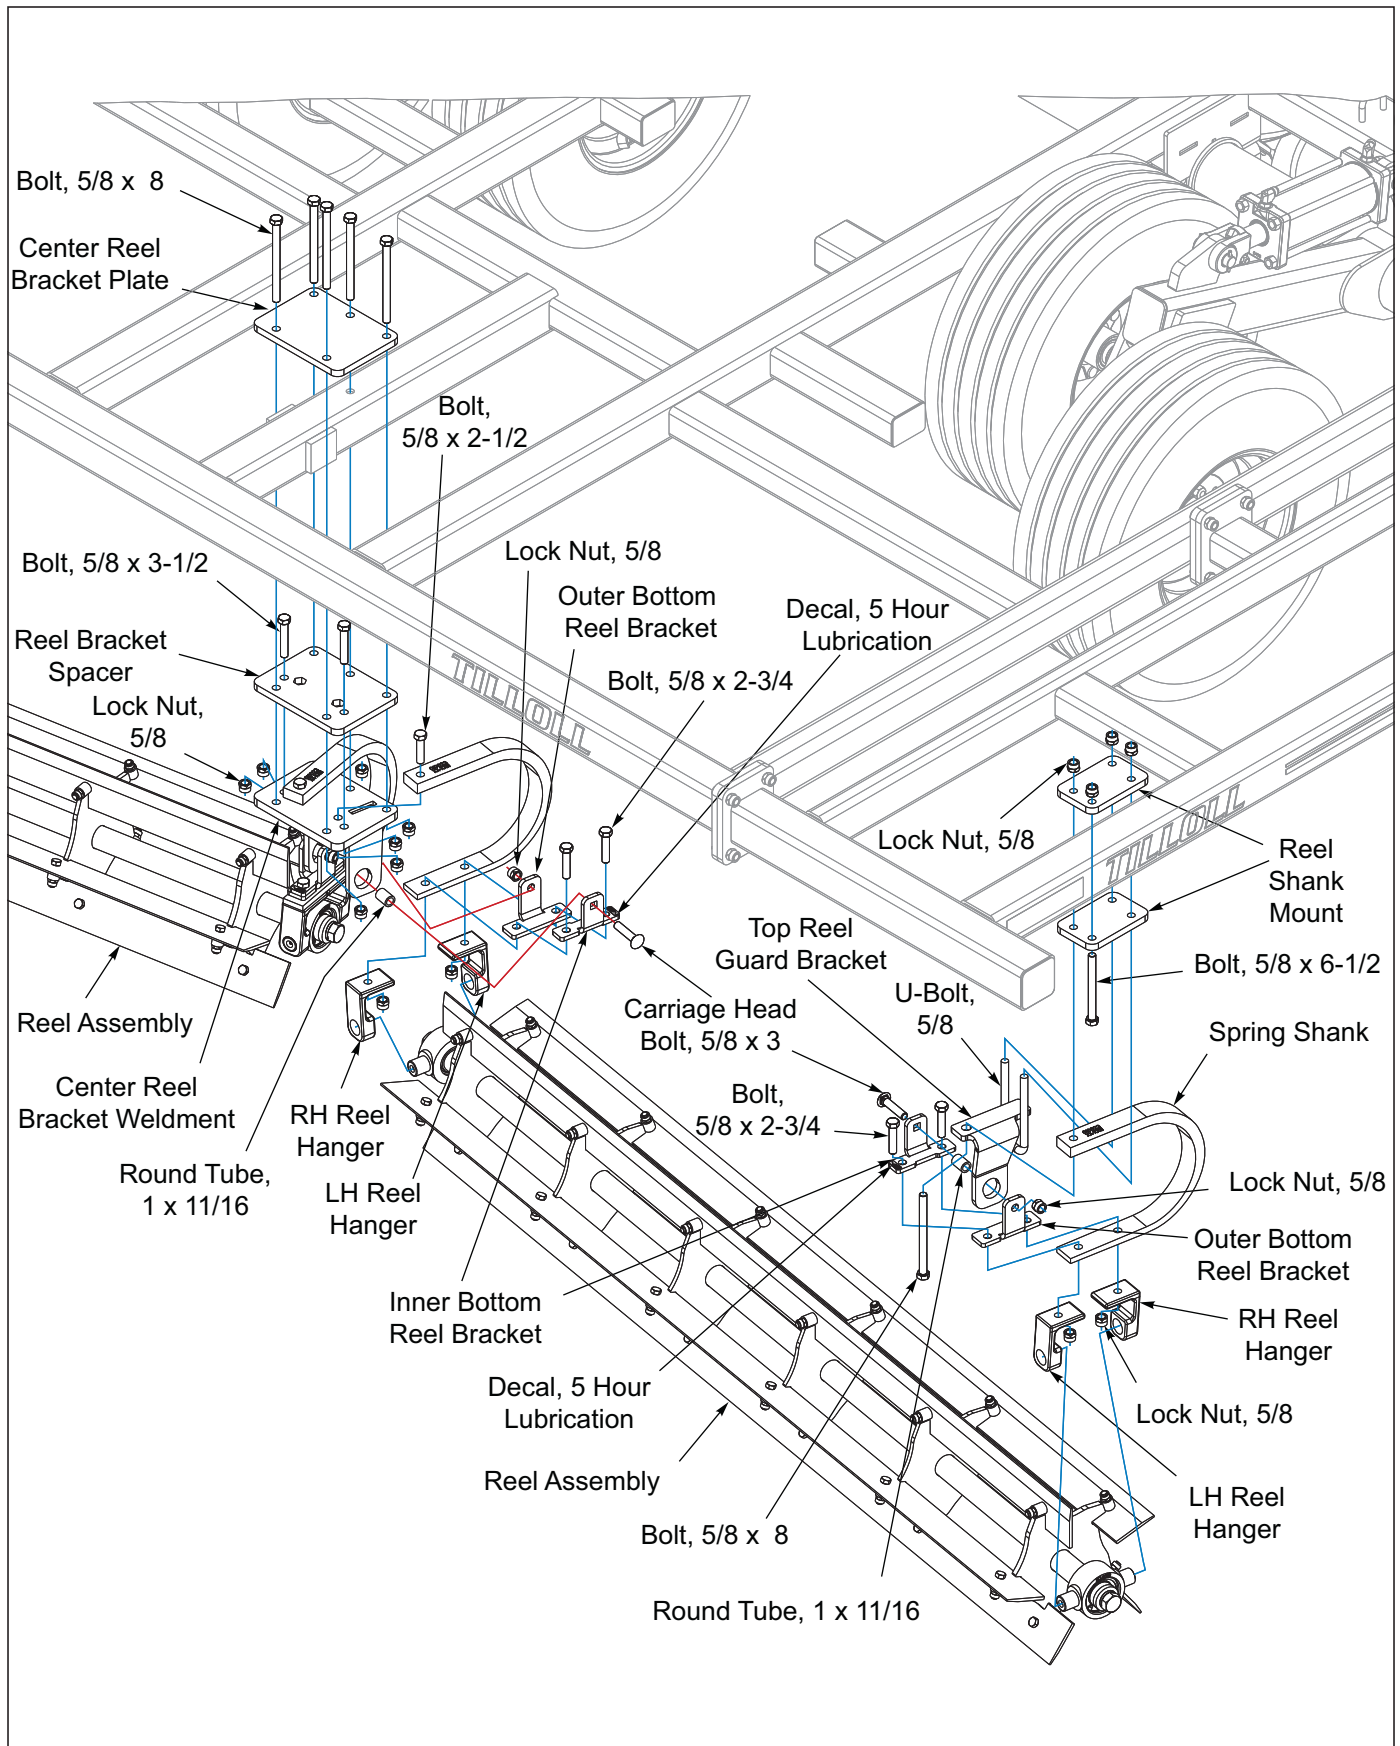

Figure 3-8: Reel Assembly
- b. The inner reel bracket (with square hole) must be placed toward the reel blades See Figure 3-8.
- h. Carefully lift reel assembly and loosely bolt top reel bracket plate to frame as shown in See Figure 3-8 using 5/8 x 8 bolts and 5/8 lock nuts See Figure 2-9 for location on frame.
- a. Set inner bottom reel bracket on top of outer bottom reel bracket and loosely attach to top reel guard bracket using 5/8 x 3-1/4 round head square neck screw, round tube spacer, and hex lock nut. The inner reel bracket (with square hole) must be placed toward the reel blades See Figure 3-8.